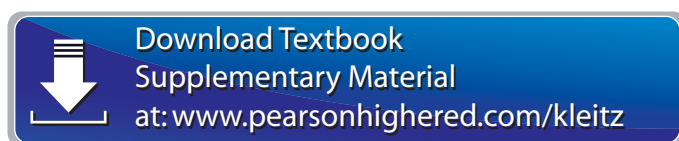

Figure P-6 Textbook companion website containing supplementary questions, circuit data files, and podcast lectures (for students and instructors).
- Companion website, a student resource containing additional online multiple-choice questions and other textbook-related links, found at **www.pearsonhighered.com/kleitz** (see Figure P-6)